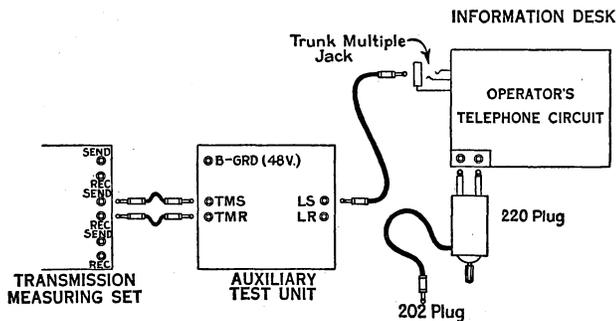

Figure 2
- 2.18 Figure 2 shows schematically the connections for the test.